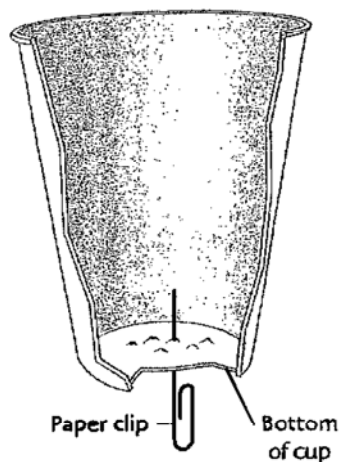

Figure 3 Preparing a disposable cup.
11. Using a straightened paper clip, poke small holes in the bottom of a disposable cup. See Figure 3.